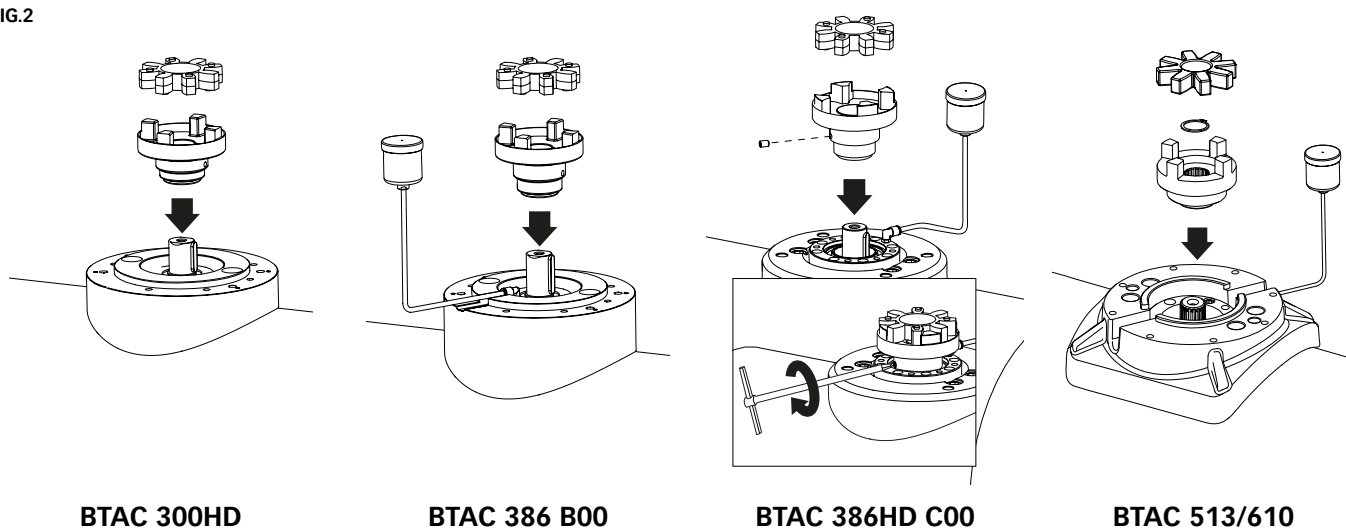

FIG.3
- **FIG. 3** Grease the end of the drive shaft and fit the upper half-coupling.